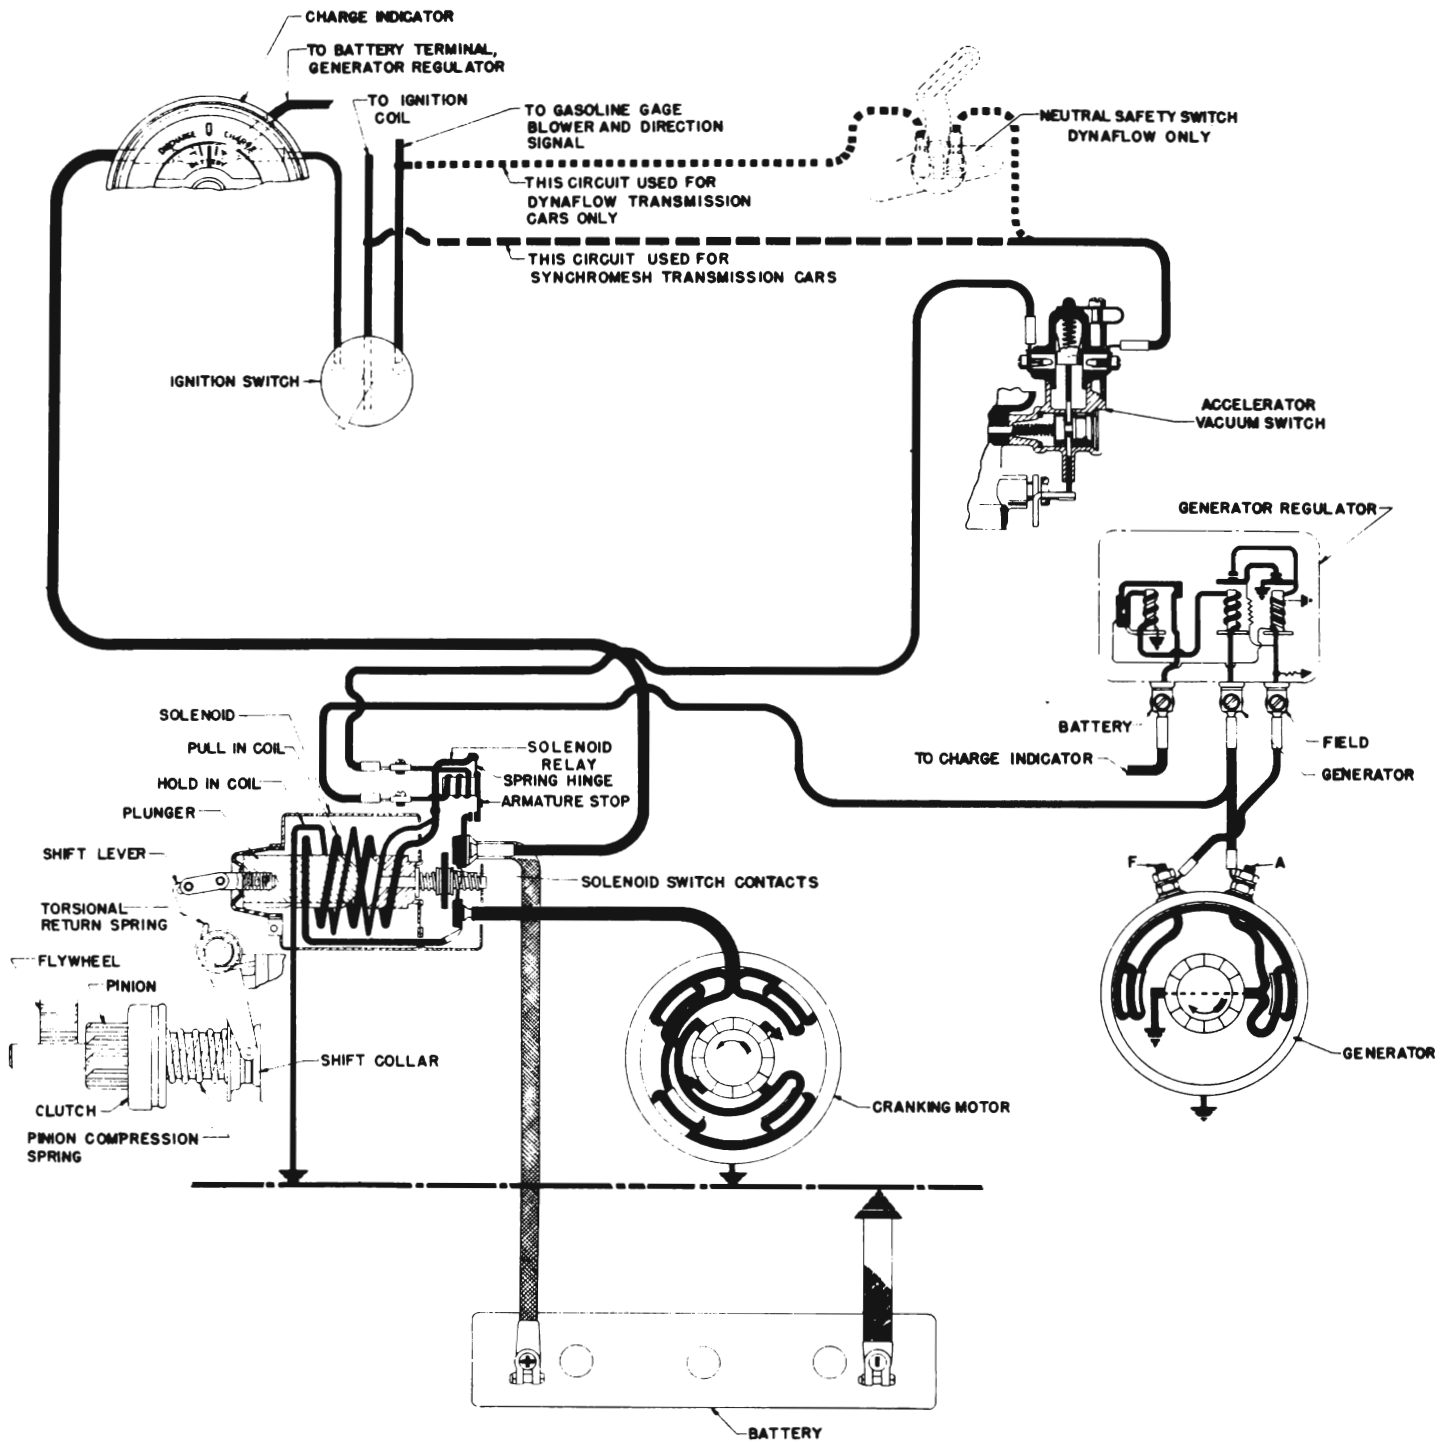

Figure 10-32—Cranking System Circuits
The units comprising the cranking system (fig. 10-32) are as follows:
7. *Neutral safety switch, only on cars equipped with Dynaflow Drive.* This switch is connected in series with the solenoid switch relay to prevent cranking of engine except when the transmission control lever is in either the neutral (N) or parking (P) position.
After the ignition switch is turned on, the cranking system is set in operation to start the engine by pressing down on the accelerator pedal. This causes the throttle to open and the accelerator vacuum switch contacts to close, thereby allowing current to flow from the battery through the ignition switch, vacuum switch, solenoid switch relay windings, and generator windings to ground. See figure 10-32. **NOTE:** *On Dynaflow Drive cars, the transmission control lever must be in neutral (N) or parking (P) position so that neutral safety switch is closed.*